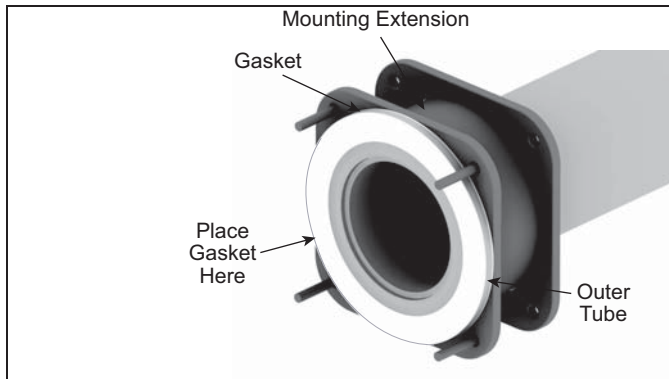

Figure 3.8.
3. Place gasket against outer tube flange. Use adhesive spray to hold gaskets in place. See Figure 3.8.
4. Place gasket against outer tube flange. See Figure 3.8.